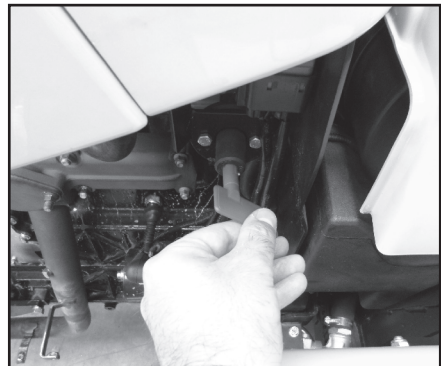

Fig. 5.15
- The switch releases and can be removed when turned again in the anti-clockwise direction (Fig. 5.15).